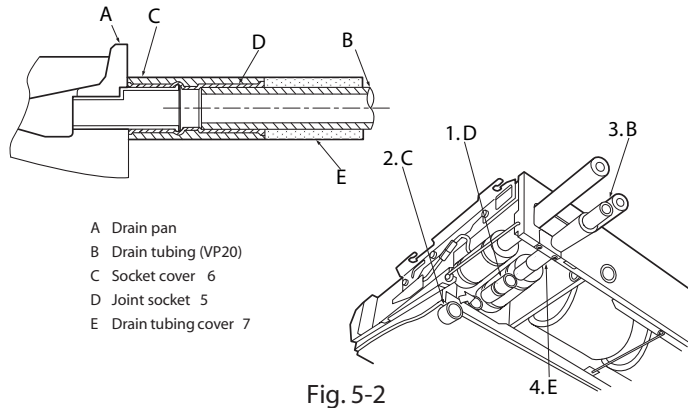

Fig. 5-2
5.2. Installing procedures (Fig. 5-2)